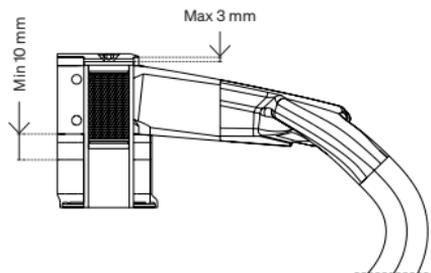

Fig. 5.2.2
- 3 • It is allowed to use a 5 mm spacer above the handlebar, in this case make sure that the expander comply the point 1) (Fig. 5.2.2).